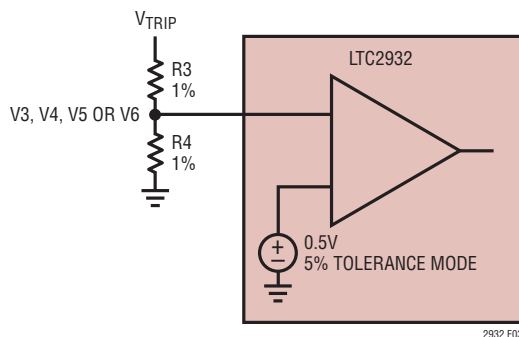

Figure 3. Setting the Positive Adjustable Trip Point
*See Figure 3.
The reference inputs on the V3 and/or V4 comparators are set to 0.5V when the positive adjustable modes are selected (Figure 3). The reference inputs on the V5 and V6 comparators are always set to 0.5V. The tap point on an external resistive divider, connected between the positive voltage being sensed and ground, is connected to the high impedance, adjustable inputs (V3, V4, V5, V6). Calculate the trip voltage from: